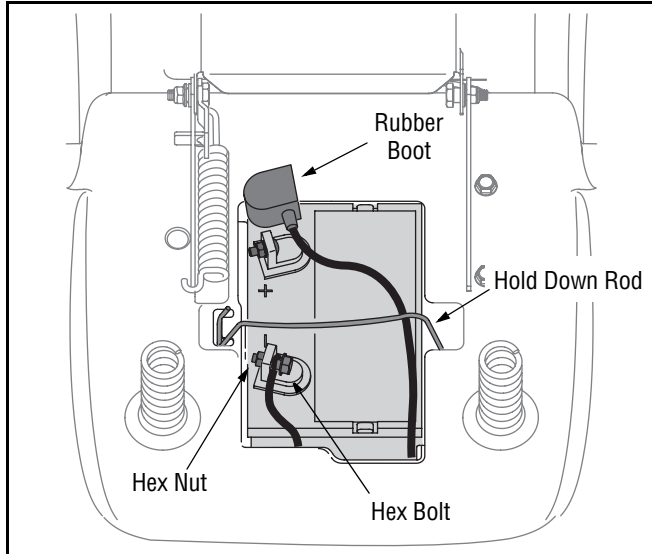

Figure 3
- Make certain the hold-down rod is in position over the battery, securing it in place. See Figure 3.